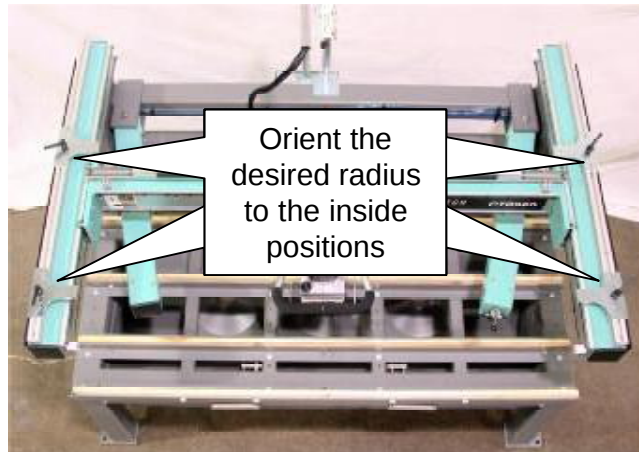
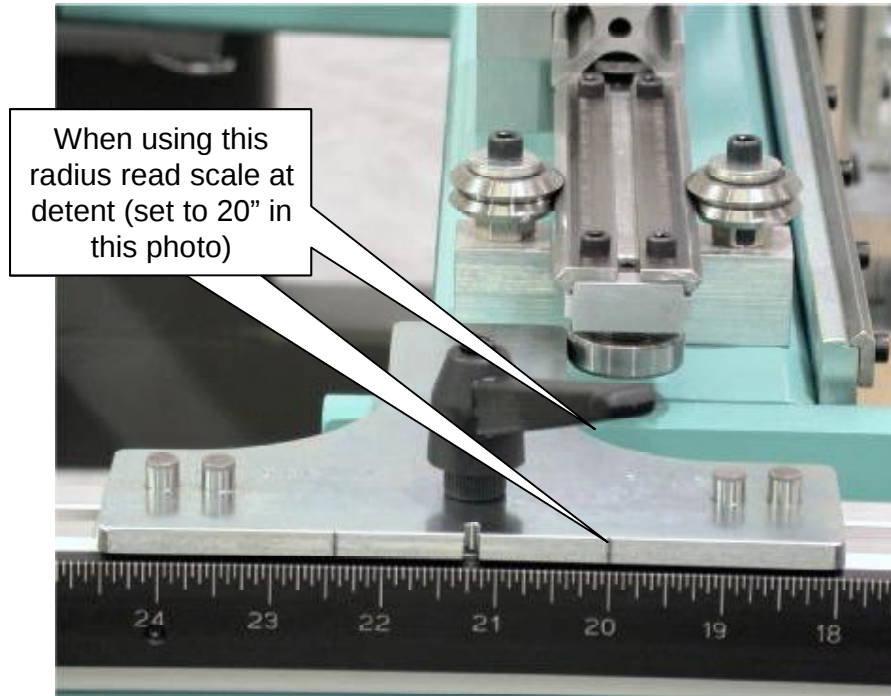

Figure 9
Figure 12
1. Select the 4 corner radius template/stops (see Figure 12) with the desired radius (sizes are stamped on the stops) and mount them so the desired radius is to the inside (see Figure 9). Be sure the pin on the sliding scales on the side of the extrusion is located in the slot on the front template/stop.